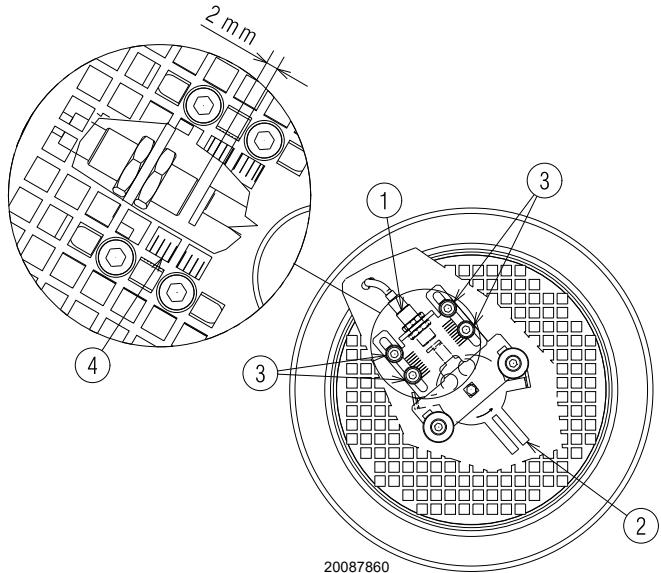

Fig. 37
- loosen the screws 3)(Fig. 37) and rest the sensor against the plate of the disc 2);
Key (Fig. 37)